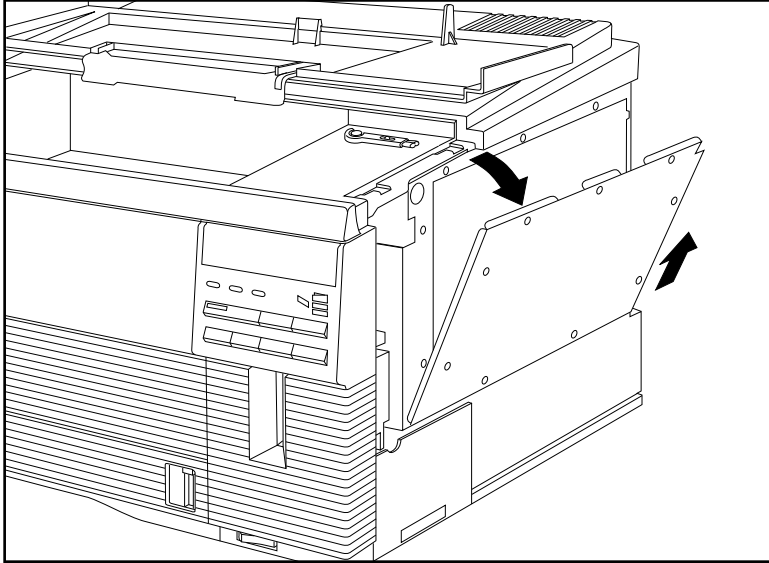

Fig. 9.11 Remove the EMI Shield
8. Tilt the EMI shield down and lift the tabs at the bottom out of the slots on the printer (fig. 9.11). Then, set the shield aside for now.